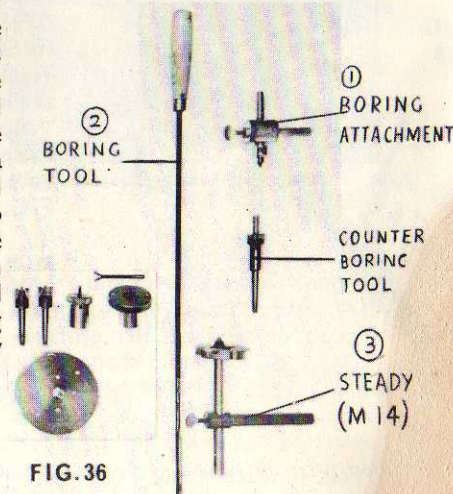

FIG. 36
FIG. 36 LONG HOLE BORING ATTACHMENT for use on Minor (1 and 2) and M.14 steady for slender work (3). Long hole boring cannot be done through the Minor tailstock, because the spindle is solid. This operation can be done by fitting the attachment (Fig. 36-1) to the saddle banjo.